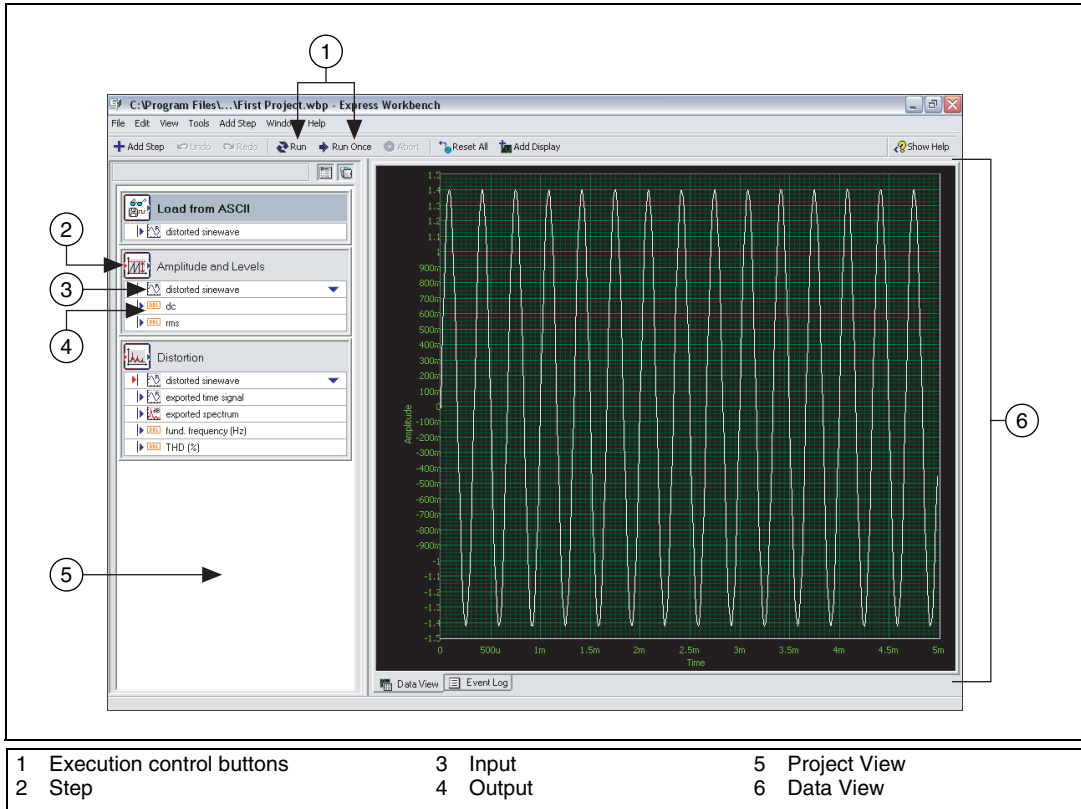

Figure 3-1. First Project.wbp
4. Examine the window that appears, as shown in Figure 3-1, to learn about different components of SignalExpress.